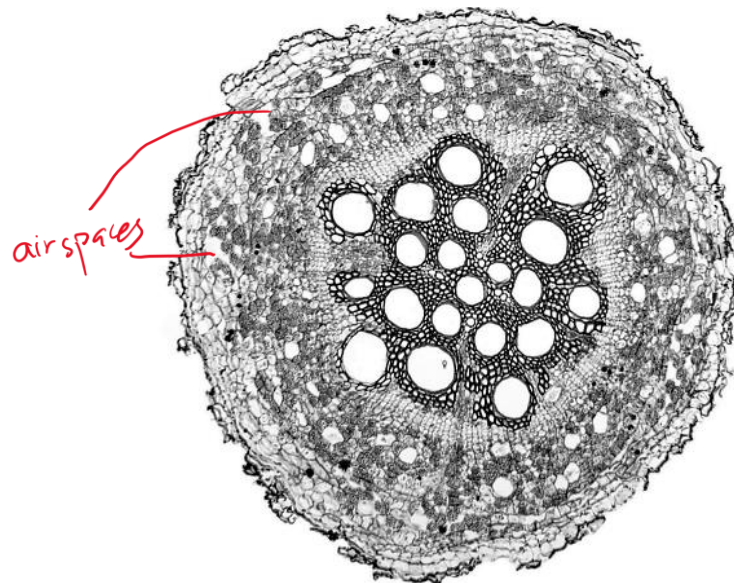

Fig. 2.2
- (ii) Fig. 2.2 is a photomicrograph of a stained transverse section through the root of a *Solanum lycopersicum* tomato plant. You are not expected to be familiar with this specimen.
Prepare an appropriate table so that it is suitable for you to record the observable differences between the root on **K1** and the root in **Fig. 2.2**.
@ proportion of vascular tissue to whole root: K1 smaller, Fig. 2.2 bigger
@ thickness of cortex relative to whole root: K1 bigger, Fig. 2.2 smaller
@ number of different tissue regions: K1 has 6 while Fig. 2.2 has 5
@ number of layers of epidermis: K1 fewer while Fig. 2.2 more